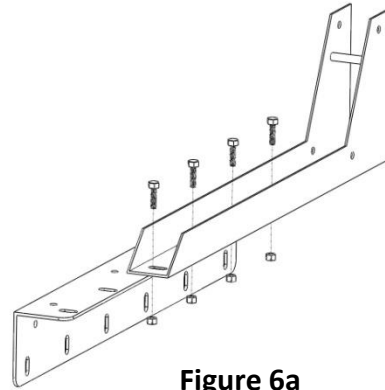

Figure 6a
a. Line up the slotted holes on the Channel Bracket (cvBB) to the Side Mount Bracket (cvAA) and bolt them together using at least 4 Medium Hex Bolts (cvD) and 4 Lock Nuts (cvF). The Channel Bracket (cvBB) should hang over the edge of the Side Mount Bracket (cvAA). Do not tighten the bolts all the way. See Fig 6a.